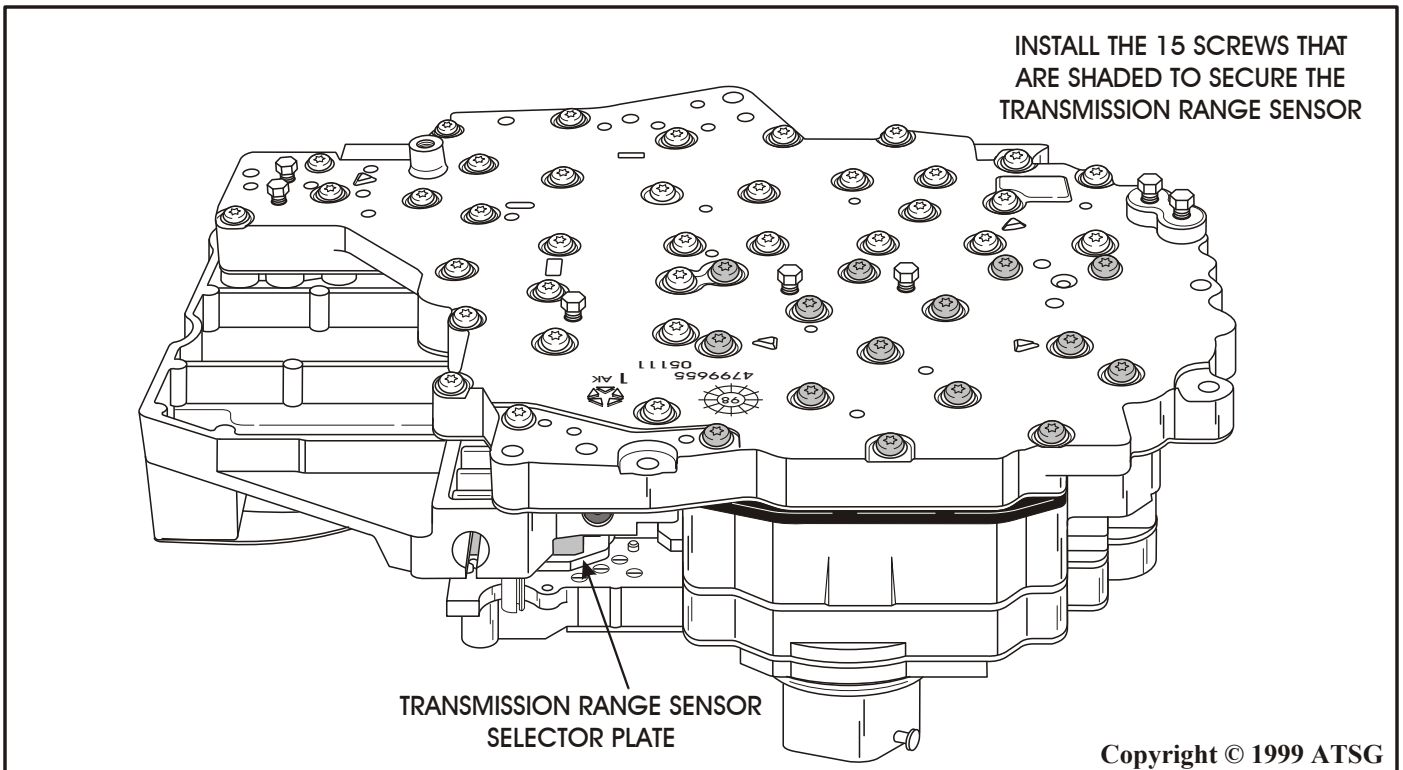

Figure 105
21. Install the TRS/Solenoid Pack onto the transfer plate using the remaining 15 valve body screws as shown in Figure 105.
Important: Tighten the screws nearest the TRS selector plate first, and work toward the other end. Refer to Figure 105.
2. However, if someone has not listened, we have provided you with an exploded view of the TRS/Solenoid Pack in Figures 105 and 106.
The illustrations in Figures 105 and 106 have been provided as information only. We recommend that the TRS/Solenoid Pack NOT be disassembled as none of the internal parts are serviced separately.